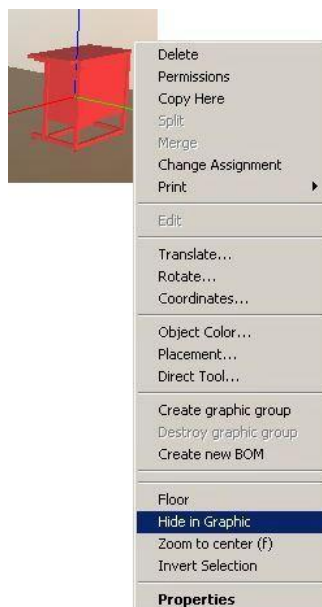

Figure 94: Hiding an Object in the Graphic
You can call the *Hide in graphic* function in the *right mouse button context menu* and in the *Graphic* menu. With this function, you can hide selected objects in the graphic. The context function is also available for bill of materials entries. Please refer to the Figure 94.
- 1) Click *Hide in graphic*. The selected object will be hidden in the graphic. Please refer to the Figure 94.